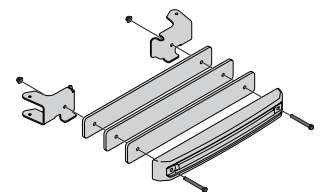

Figure 27
2. Attach the weight and three weight plates to the weight hanger brackets with two 3/8" hex head capscrews (710-3085) and two nuts (712-04065) as shown in Figure 27.